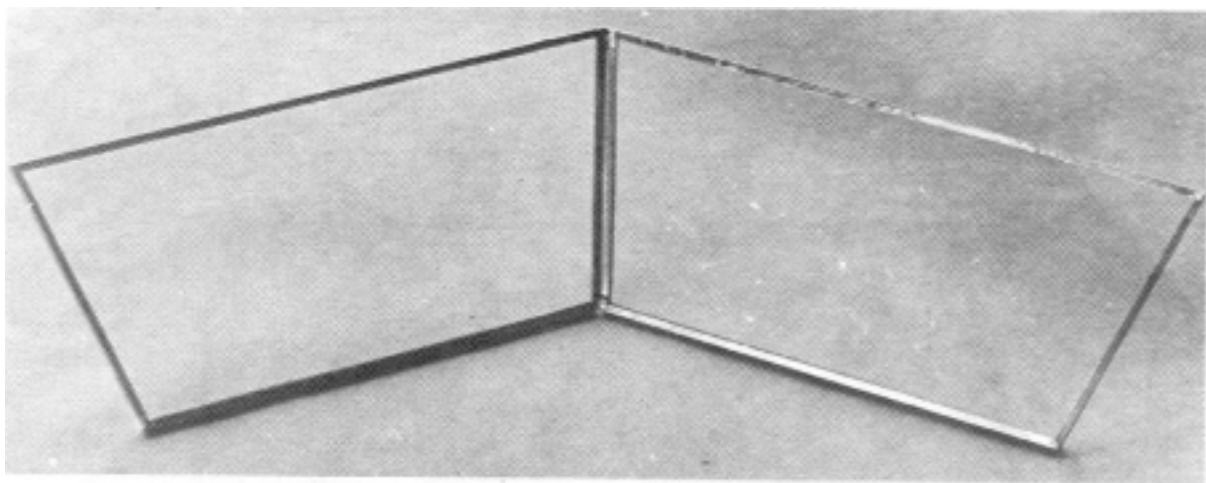

Fig 11.3
5. Begin assembly by tacking two of the base panels together. Stand them up at an angle as in fig 11.3. Solder them together at the inside corners only-. Add the remaining B panels one at a time until the circle is complete. Make sure the joints are tight and accurately lined up.